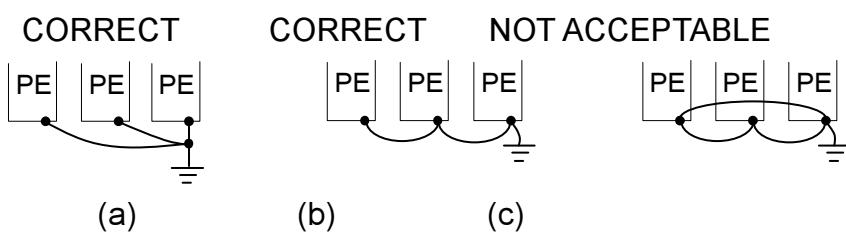

Fig. 3 Grounding of Three 7200GS/GS510 Units
- (1) Ground resistance should be 100 ohms or less.
- (2) Never ground 7200GS/GS510 in common with welding machines, motors, and other large-current electrical equipment, or ground pole. Run the ground lead in separate conduit from leads for large-current electrical equipment.
- (3) Use the ground leads which comply with AWG standards and make sure the length is as short as possible.
- (4) Where several 7200GS/GS510 units are used side by side, it is preferable to ground each unit separately to ground poles. However, connecting all the ground terminals of 7200GS/GS510 in parallel while grounding only one of the 7200GS/GS510's to the ground pole is also permissible (Fig. 3). Be sure not to form a loop with the ground leads.